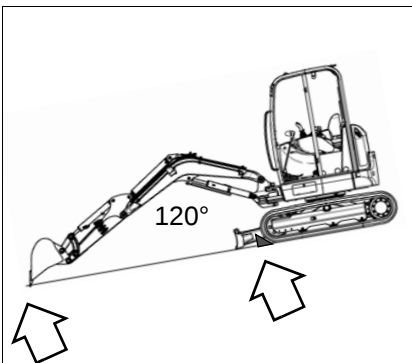

Fig. 164
- Secure the vehicle with wheel chocks (see Fig. 164).